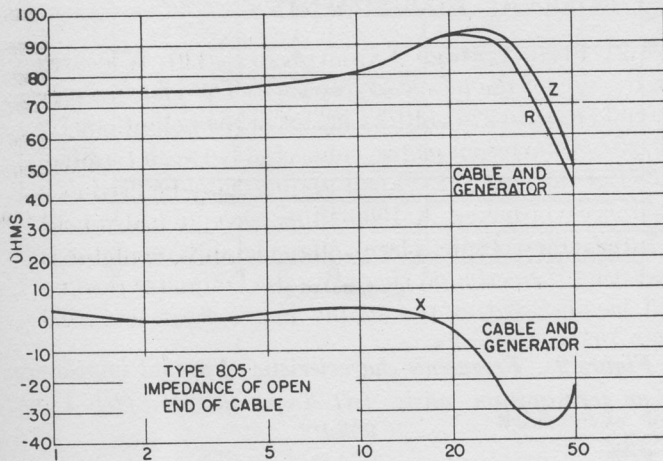
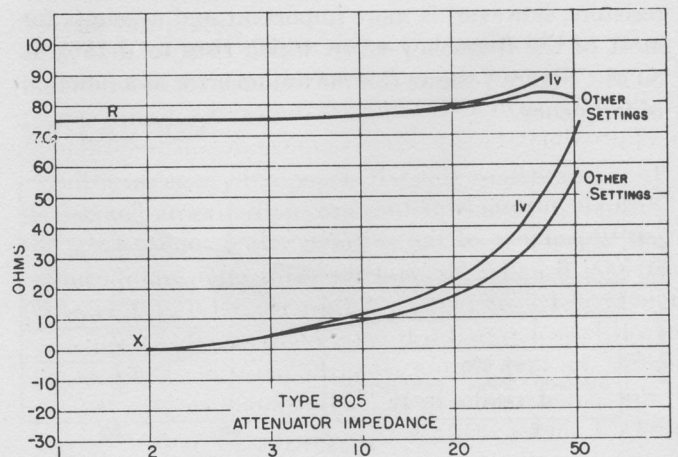

Figure 10. Output impedance at open end of cable.
Figure 11. Attenuator impedance as a function of frequency.
**3.32** With the termination unit removed and an equivalent cable of the same length and impedance substituted, the impedance characteristic is that shown in Figure 10, and the open-circuit voltage is twice that indicated by the output meter and attenuator.
**3.33** The deviation in impedance from the normal resistive value of 75 ohms is caused by inductance in the attenuator, whose characteristic is shown in Figure 11. Since the attenuator and cable system is series resonant at approximately 20 megacycles, the sign of the reactance seen at the open end of the cable is reversed at higher frequencies, as shown in Figure 10.